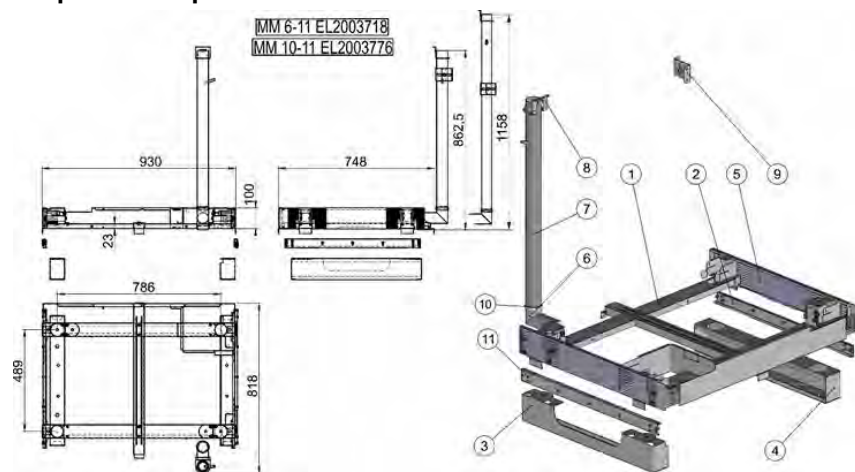
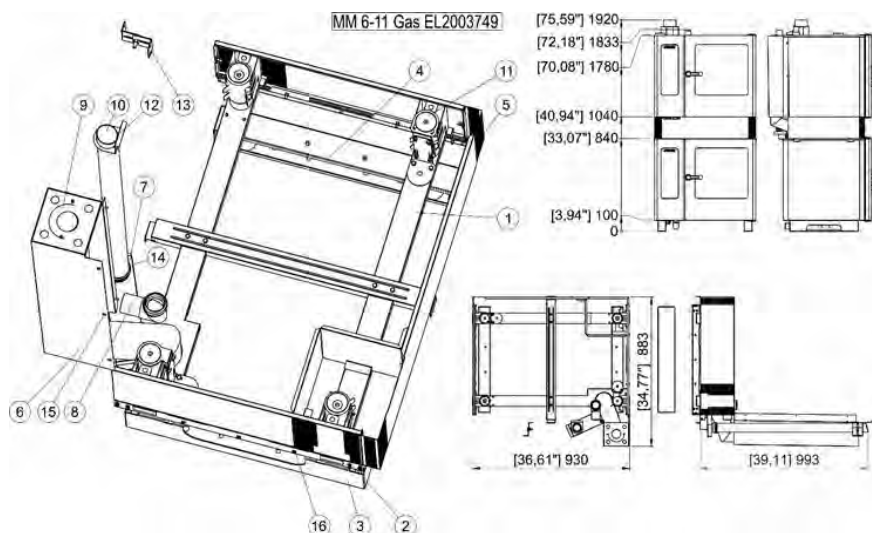
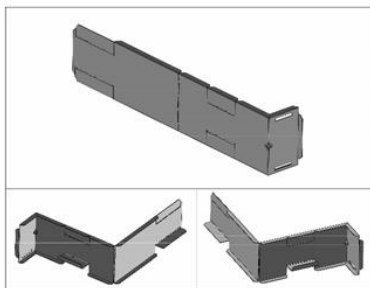

Fig. 43: Kombimix kit, right-hinged 6-11/10-11 ELECTRIC
Fig. 46: Kombimix kit, right-hinged 10-11 gas
Fig. 52: Separating plate: Right-hinged and left-hinged
8. Bend the separating plate 90° in accordance with the hinge side and edge the lugs (Fig. 52), and install it on the intermediate frame (right-hinged on the left-hand side/left-hinged on the right-hand side). See Fig. 43 for electric devices, see Fig. 46 for gas devices.